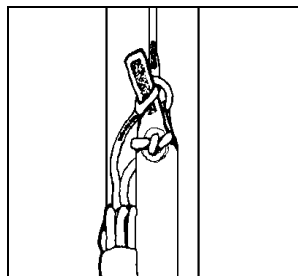

Figure 9.
Step 5.) Insert the stiffened upper portion of the control toggle through the loop and pull the control line back up tightly against the ring guide. (See Figure 9.) "S" fold the remaining break line next to the control toggle and stow it in the Velcro loop provided. Mate the Velcro on the control toggle with the Velcro on the reserve riser.